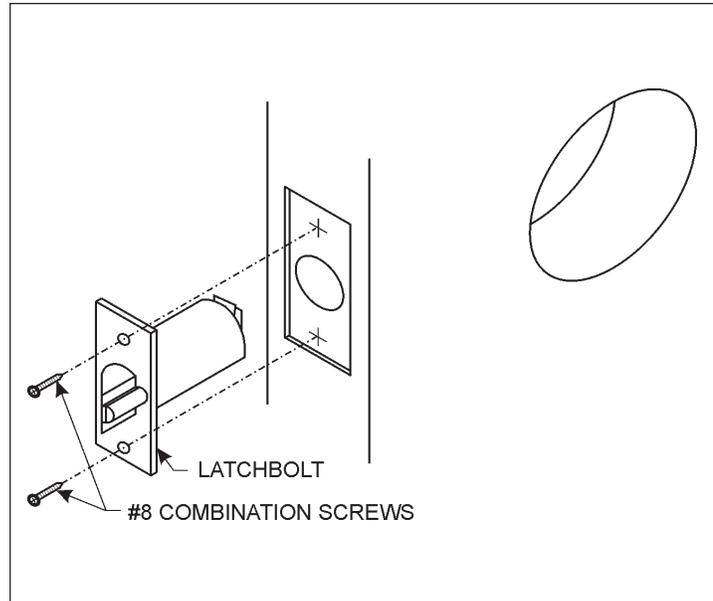

Figure 7
1. Check the door swing and orient the latchbolt to the hand of the door. Refer to Figure 7.
2. Insert the latchbolt into the hole in the door as shown in Figure 7. Using the latchbolt front as a template, centerpunch and drill two (2) 1/8" (3mm) mounting holes.